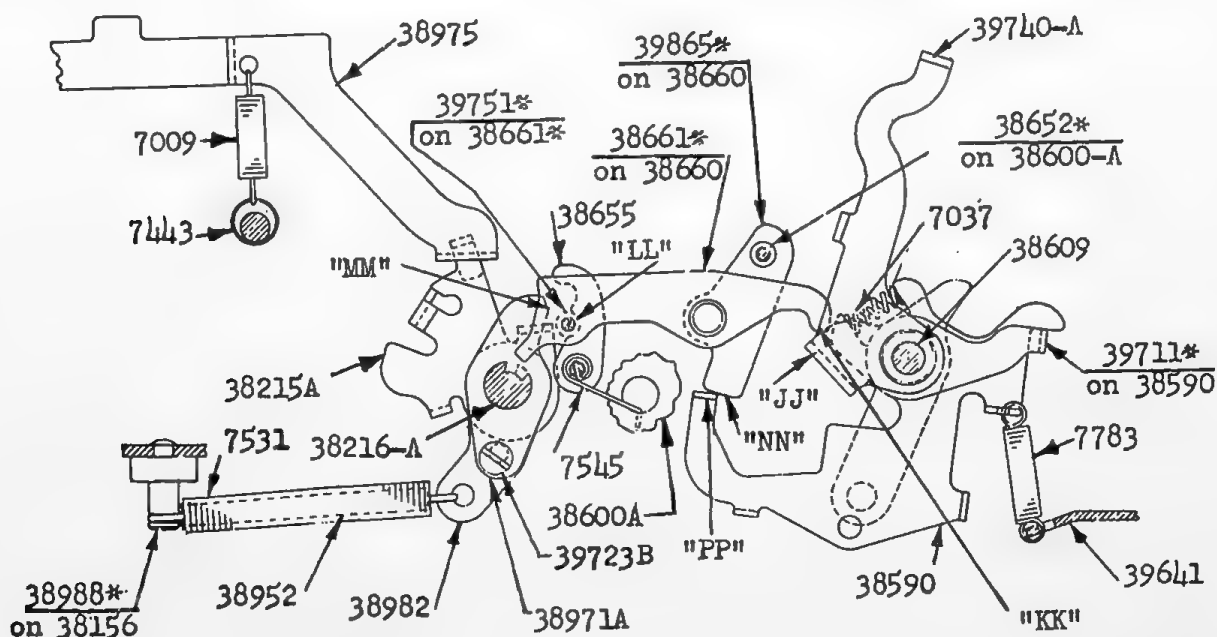

FIG. 54
1. (Fig. 54). It has been mentioned in Section V-Para. B-5, page 1261, that
2. (Fig. 54). As long as one or more ordinal Levers-38215A are latched forward their keys hold the Shaft-38216A in such a position that the twin Levers-38971A are clear of Stud-39751* on 38661*. As soon as the last multiplier digit is counted out and the last 38215A is